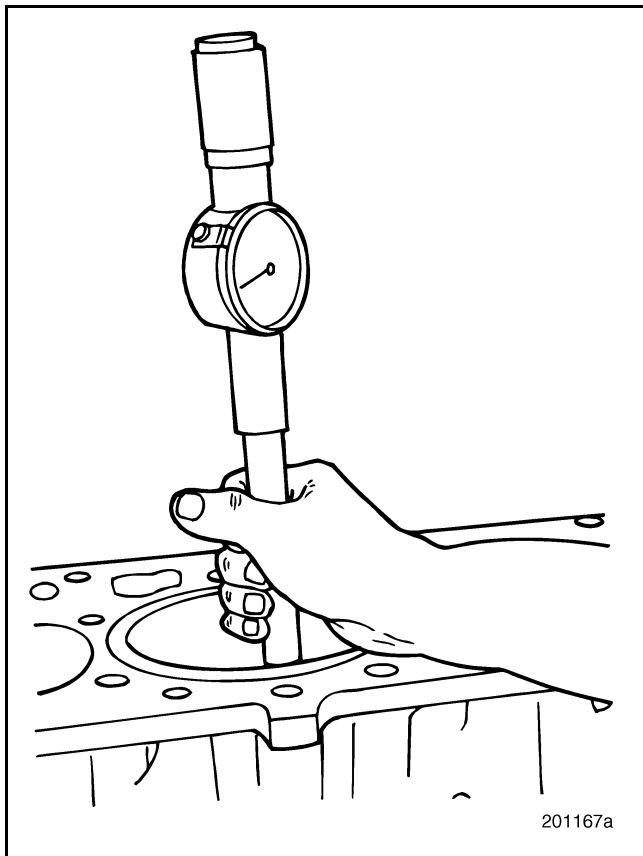

Figure 212 — Checking Cylinder Sleeve for Out-of-Round or Taper
- Using dial bore gauge J 5347-B, or equivalent, check the cylinder sleeve for out-of-round and taper limit (Figure 212). Take readings in two directions, 90 degrees apart, at each of three levels.